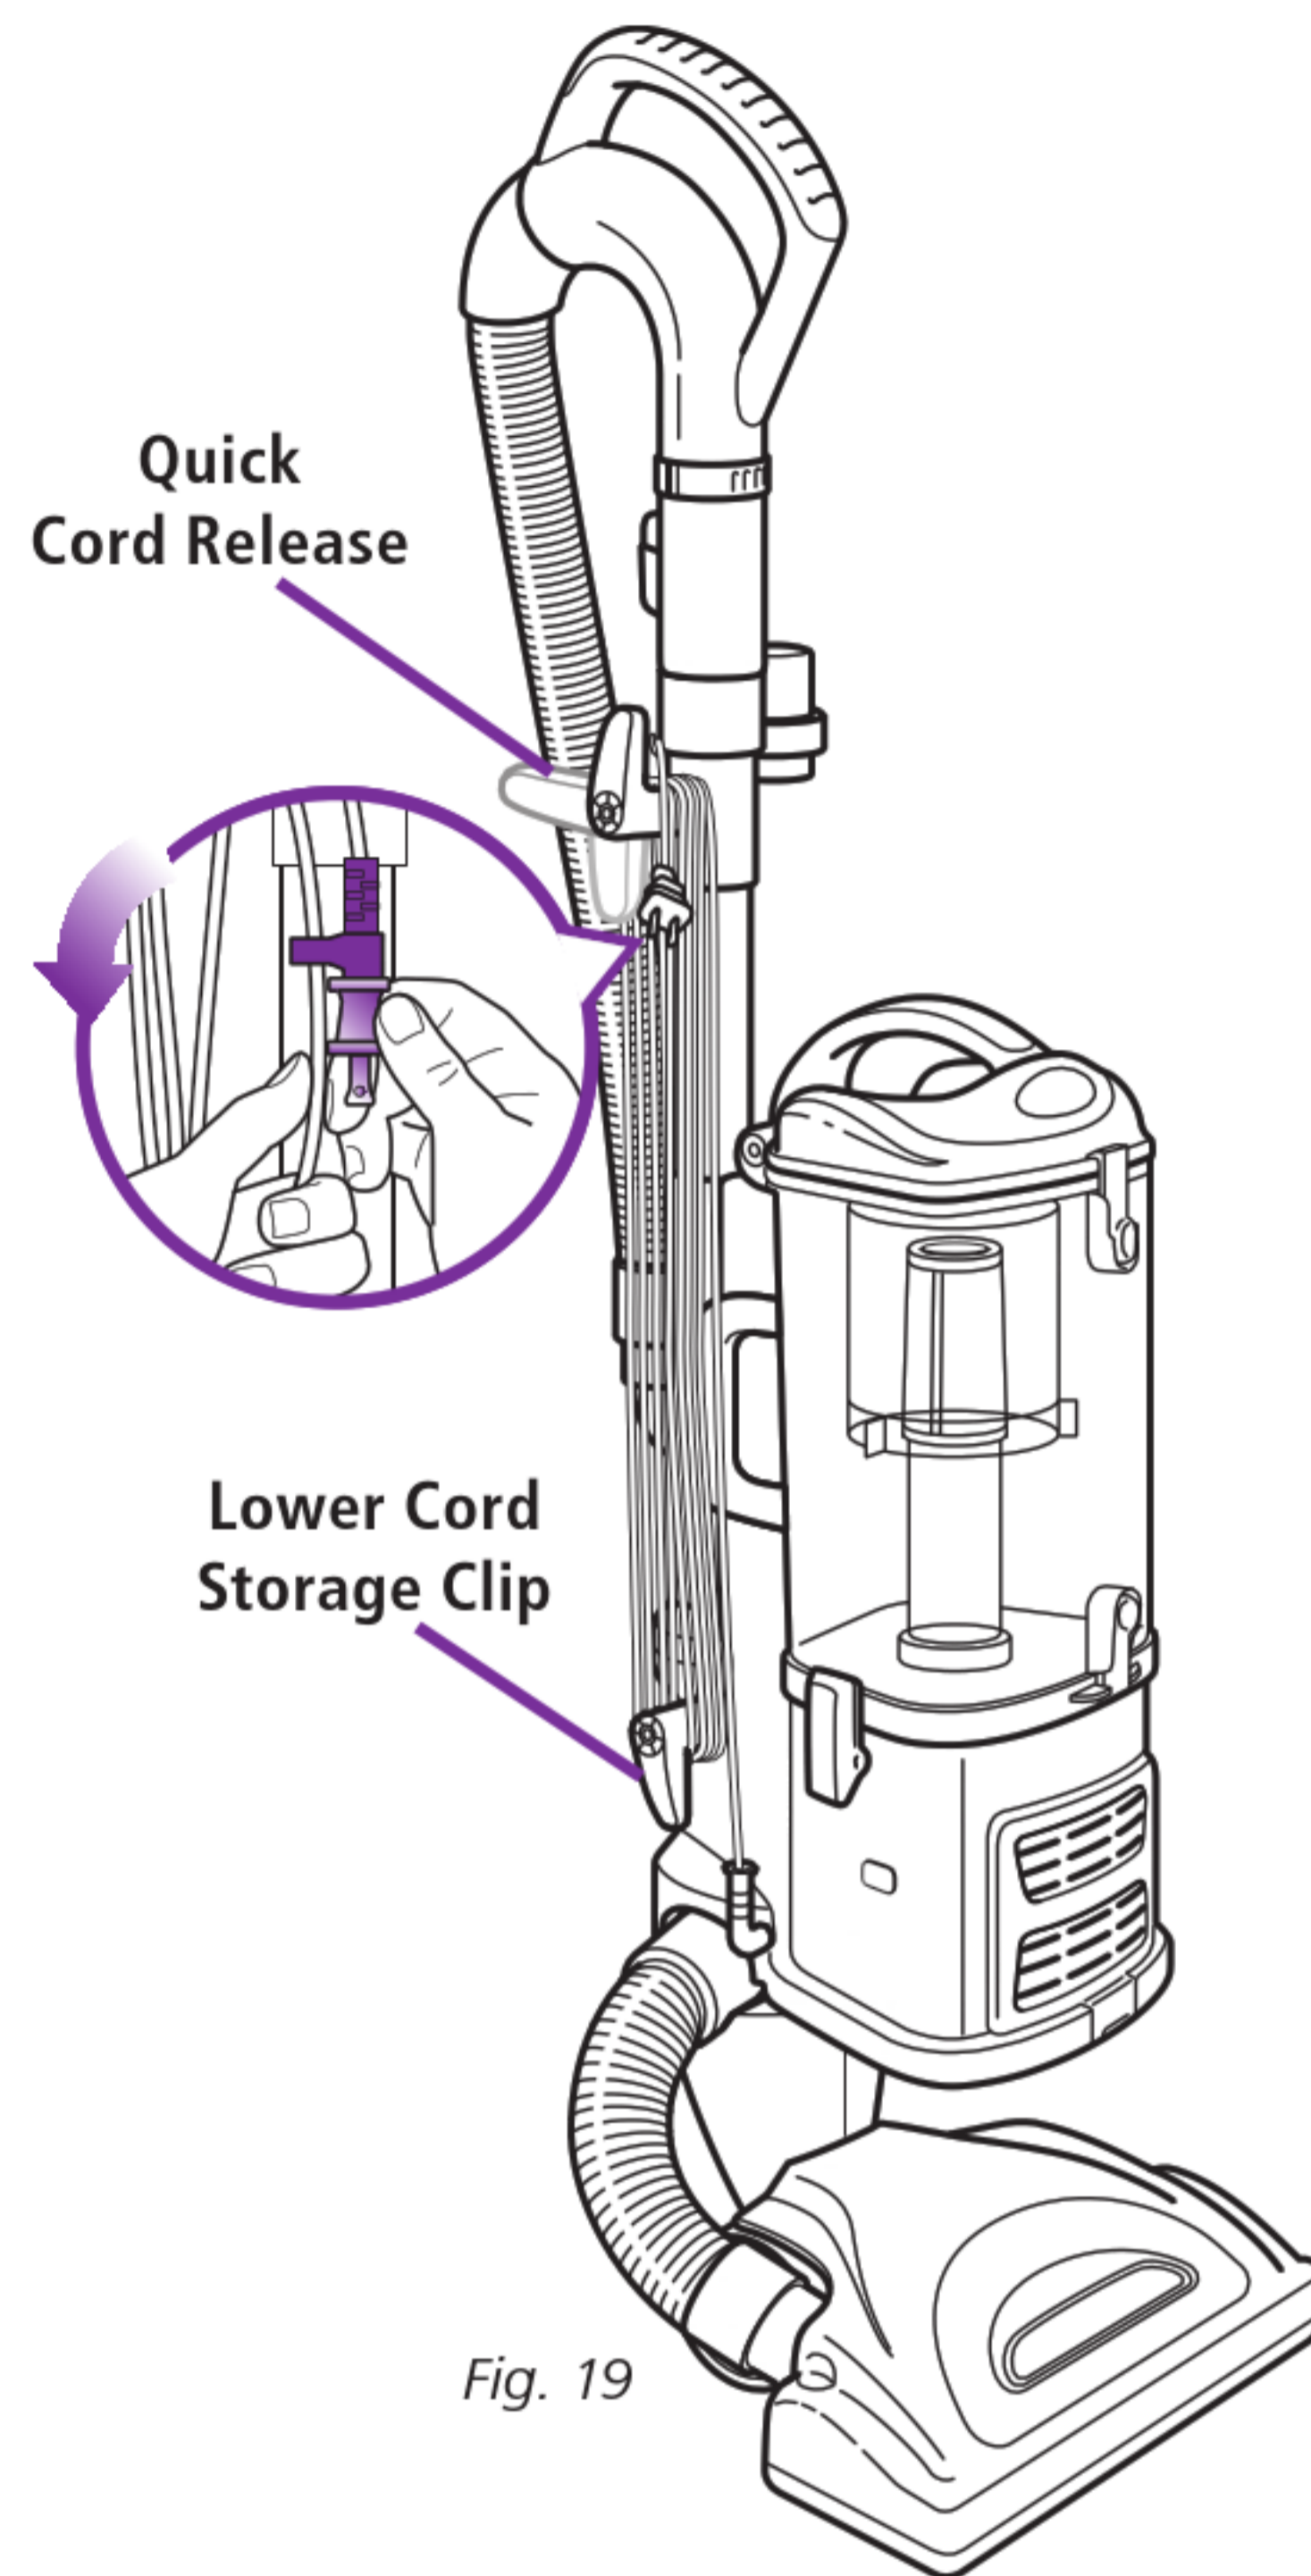

Fig. 19
- 2 Rotate the upper quick cord release to its upright position and coil the power cord loosely around the two clips. Clip the plug onto the cord to secure. **(Fig. 19)**